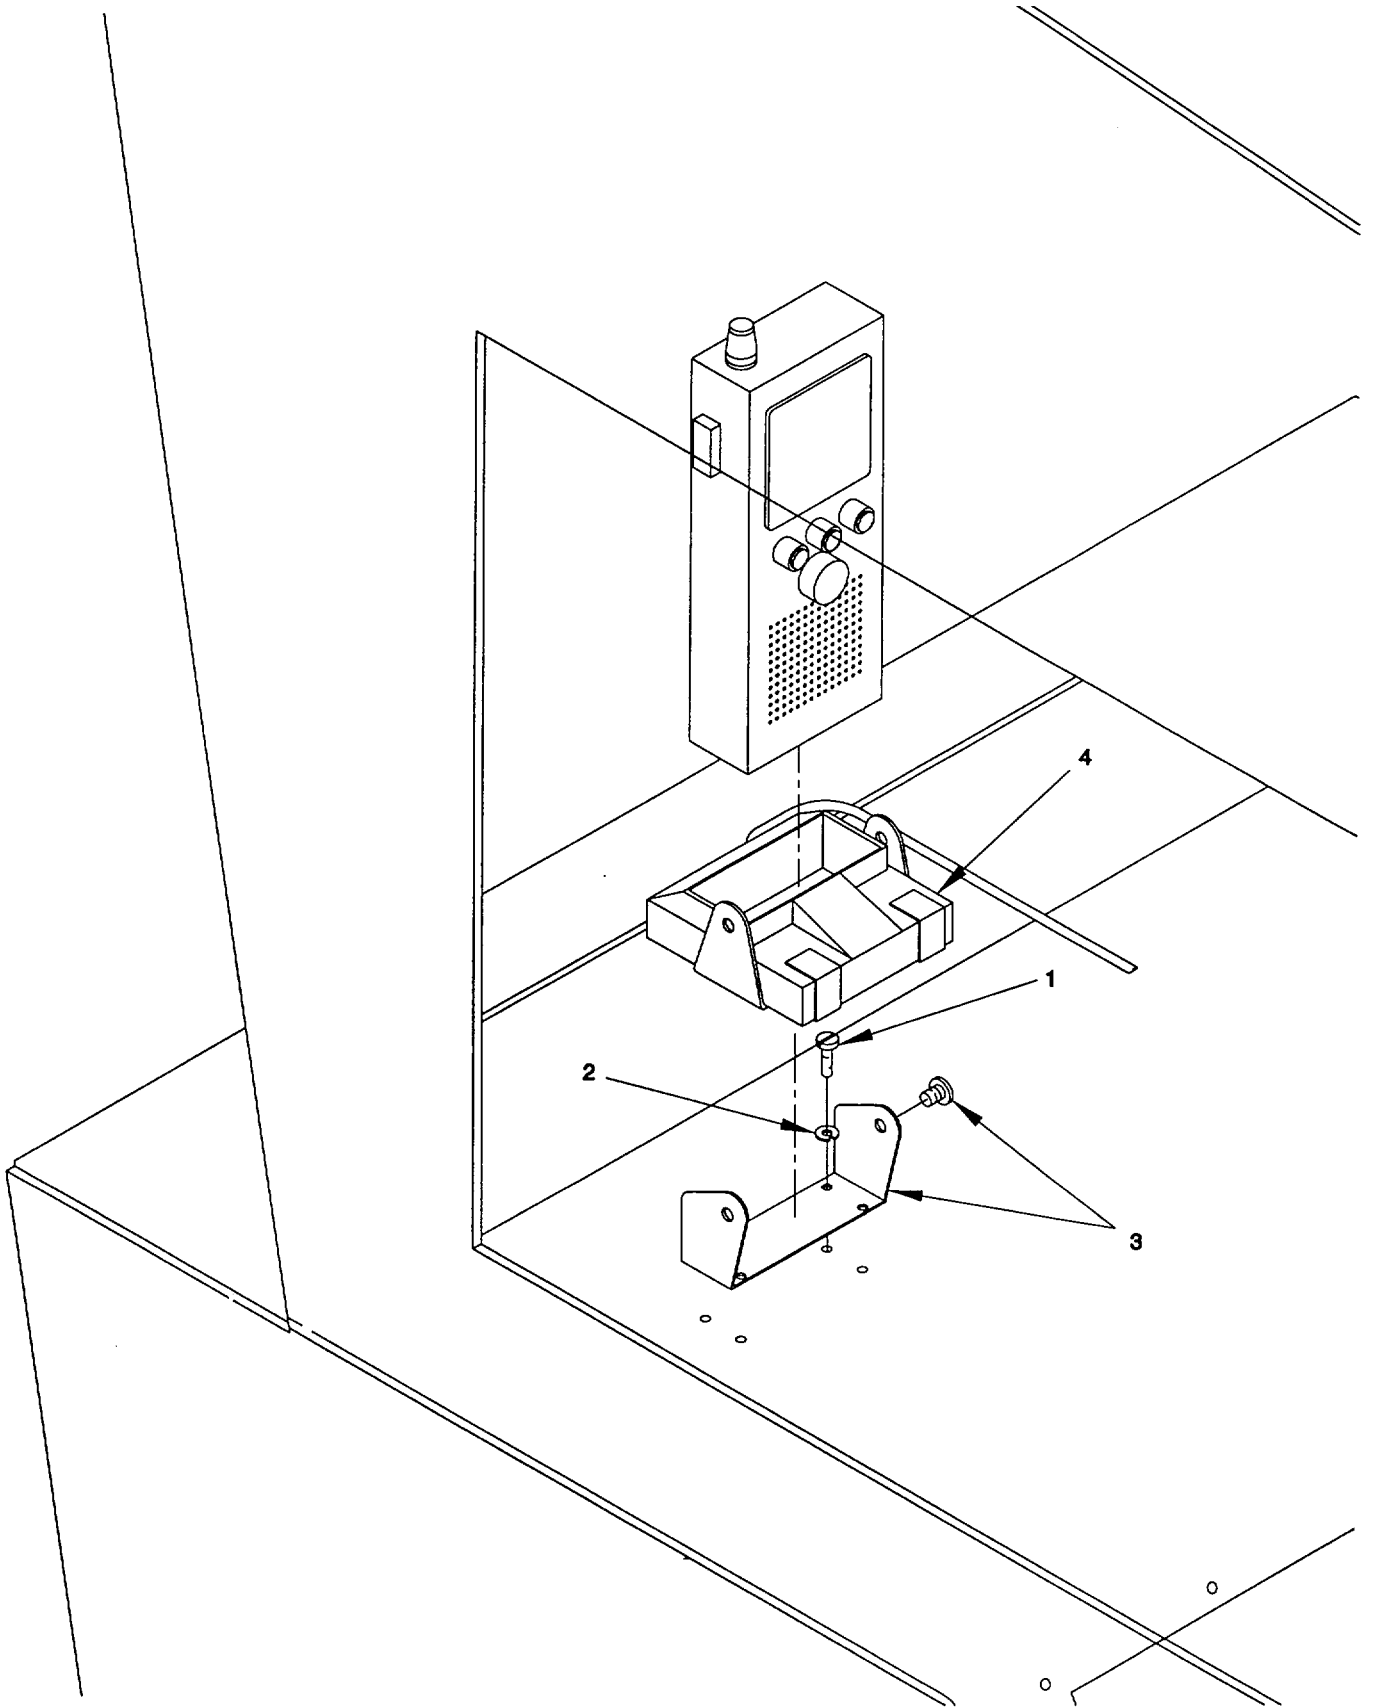

Figure 2-103. Battery Charger, Triton Receiver/Transmitter, Remove/Install
WARNING**When performing maintenance, the electrical system should be disconnected and tagged OUT OF SERVICE to prevent inadvertent operation. Failure to comply can result in serious injury to personnel.****a. *Remove.*** (figure 2-103)
- (1) Tag and disconnect electrical wiring to battery charger (4). Refer to Appendix G.
- (2) Remove the four pan head screws (1) and four lock washers (2) securing bracket (3). Remove bracket (3) and battery charger (4).
b. *Install.* (figure 2-103)
- (1) Apply antiseize compound to threads on pan head screws (1).
- (2) Position new battery charger (4) and bracket (3). Secure with four pan head screws (1) and four lock washers (2).
- (3) Reconnect electrical wiring, as tagged, to battery charger (4). Refer to Appendix G.